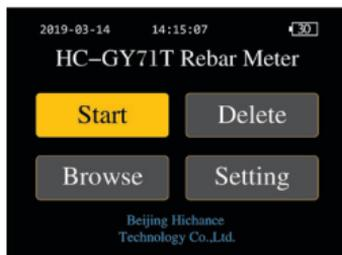

Fig. 2-2
Long press the (OK) button to start or shut the instrument. The instrument enters function interface after start up (see Figure 2-2). Press (▲) and (▼) buttons to choose different functions.
In the system main interface (see Figure 2-2), press (▲) and (▼) buttons to switch functions. Choose "Start 1" press (OK) or (Fn) to enter the detection setting interface (see Figure 2-3) to (Figure 2-7). (▲) and (▼) move to choose different detection methods, from the upper to the down are cover-scan, wave-scan, JGJ-scan, grid-scan and complex detection.